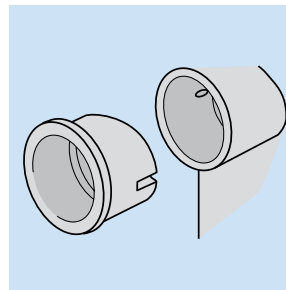

Fig. 32
- If only one waste connection is required solvent weld blanking plug into unused socket (Fig.32).